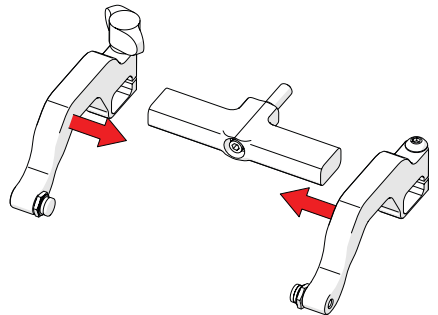

Fig. 39 - Remove outer arm
6. Place the probe holder arms on the yoke and tighten the arm clamp screw and probe holder adjustment knob (Fig. 39).